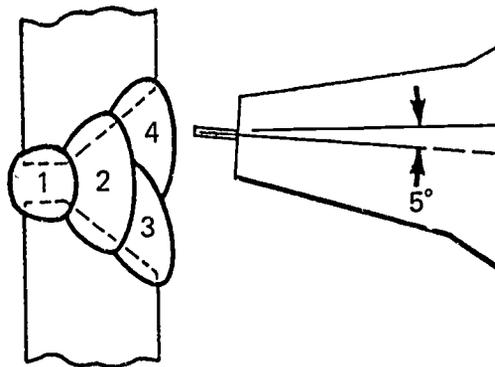

FIGURE 11
- O. Deposit fourth pass with electrode angled up 5° from horizontal with weld bead overlapping top edge of groove $1/16''$ (Figure 11)